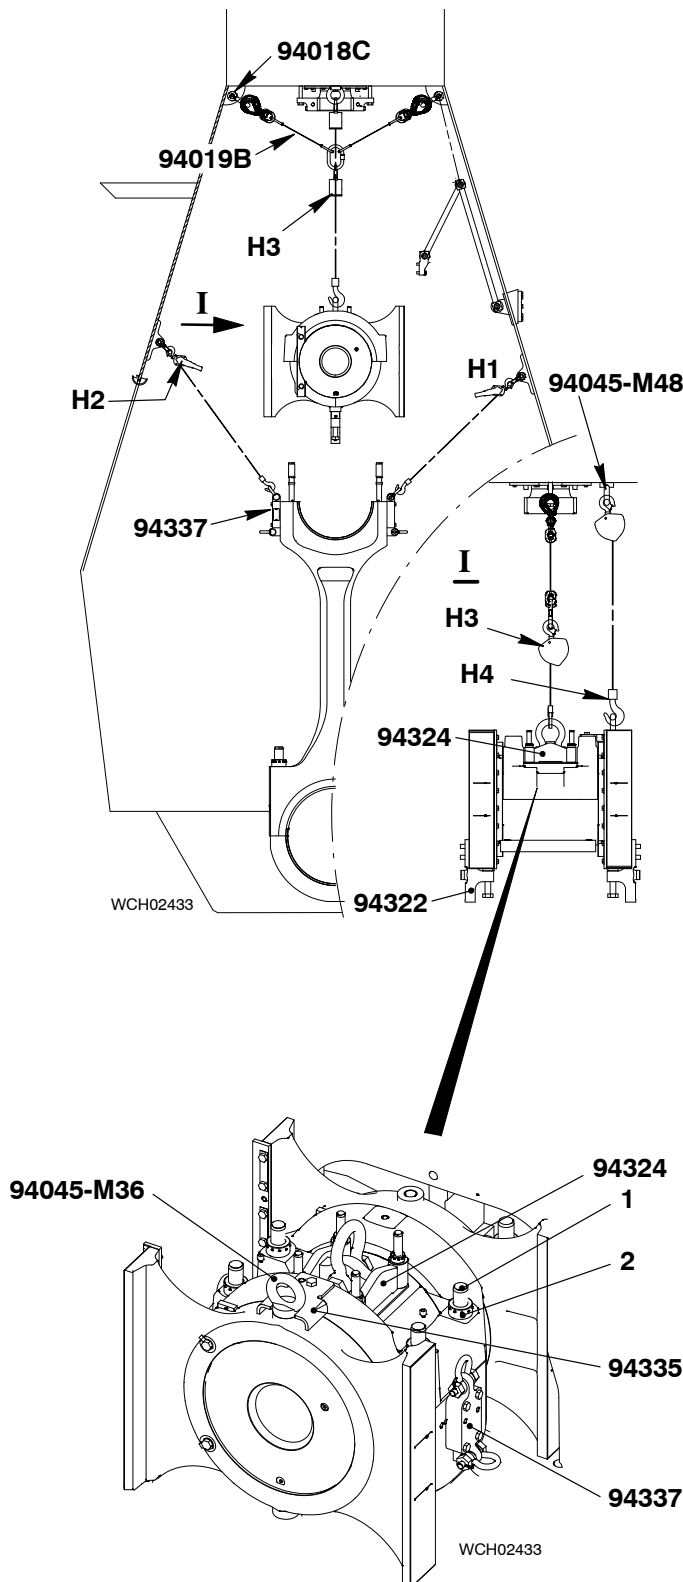

Fig. 13
- 24) Operate the turning gear and the manual ratchets (H1 and H2, Fig. 13) to move the connecting rod and crankshaft clockwise into the position shown.